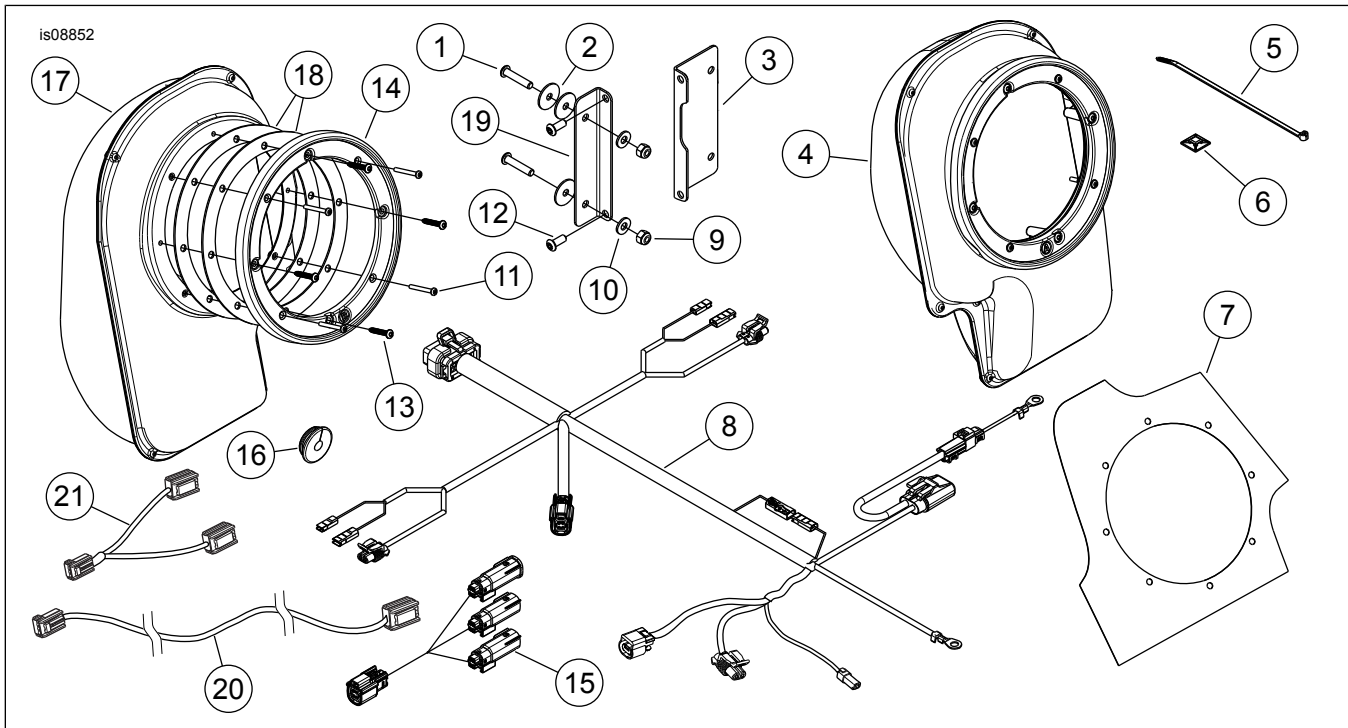

Figure 9. Service Parts, Speaker Expansion Installation Kit
See Figure 9 and Table 1.
- See Figure 9. Install bracket (3) to connector side of amplifier (amplifier sold separately). Secure with screws (12). Tighten screws to:
- See Figure 9. Place one gasket (18) on the exterior surface. Align the holes.
- Place a trim ring (14) over gasket and center hole. (Left side trim ring is marked "A". Right side trim ring is marked "B".) Rotate trim ring so the letter is at the bottom.
- Reach through the center hole. Align the holes in the enclosure, gasket (18) and body. Insert plastite screw (13) through a counterbored hole.
- a. **Stage I 6-speaker configuration:** Install harness [296] directly into the 16-way harness (previously installed through fairing amplifier kit), located behind the passenger seat. **Stage II 6-speaker configuration:** Install 3-way interconnect harness (item 15, Figure 9) into the 16-way harness (previously installed through fairing amplifier kit), located behind the passenger seat. Install harness [296] into 3-way interconnector.